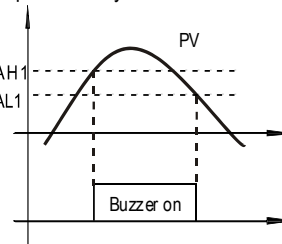
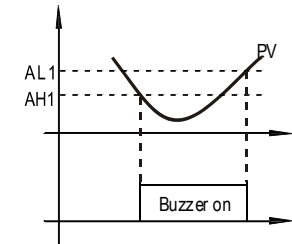

Figure 6. Absolute high alarm
Figure 7. Absolute low alarm
**Note 13.** Alarm setting. When the SSR is used as the control output, the J1 relay can be used as an alarm (when outy is set to 0, 2, 3, or 6). The controller offers two alarm settings for the J1 relay. One is controlled by parameters AH1 and AL1, and the other is controlled by AH2 and AL2. AH1 and AH2 are the temperatures to turn the J1 relay on; AL1 and AL2 are the temperatures to turn the J1 relay off. When AH1(2) > AL1(2), the alarm is set for absolute high alarm as shown in Figure 6 below. When AH1 (2) < AL1(2), the alarm is set for absolute low alarm as shown in Figure 7 below. Users can press > key to temporarily turn off the alarm. The alarm will be on again if the alarm set temperature is reached again. To permanently deactivate the alarm, set AH1=AL1 or AH2=AL2.